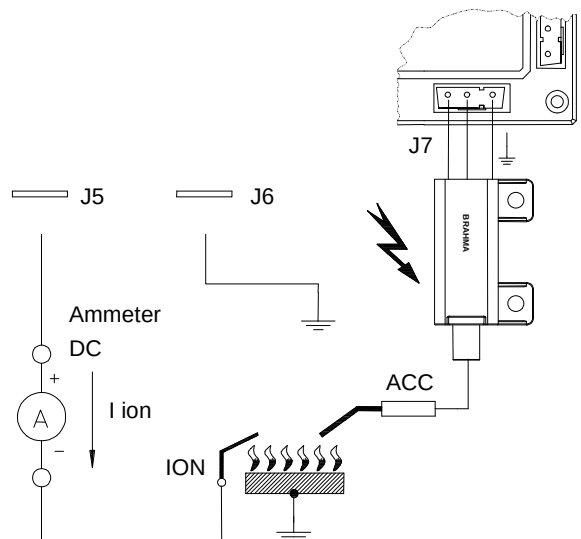
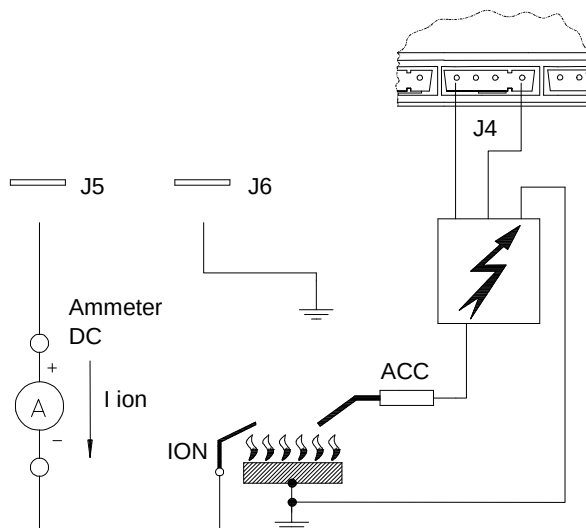

Fig.6 – Flame signal measurement method in "FR" controllers
Fig.7 – Flame signal measurement method in “PR” controllers
- the flame signal level is high enough (see Fig. 6 for the measuring method to be adapted in case of MICROFLAT controllers type FR and Fig. 7 in case of MICROFLAT controllers type PR);